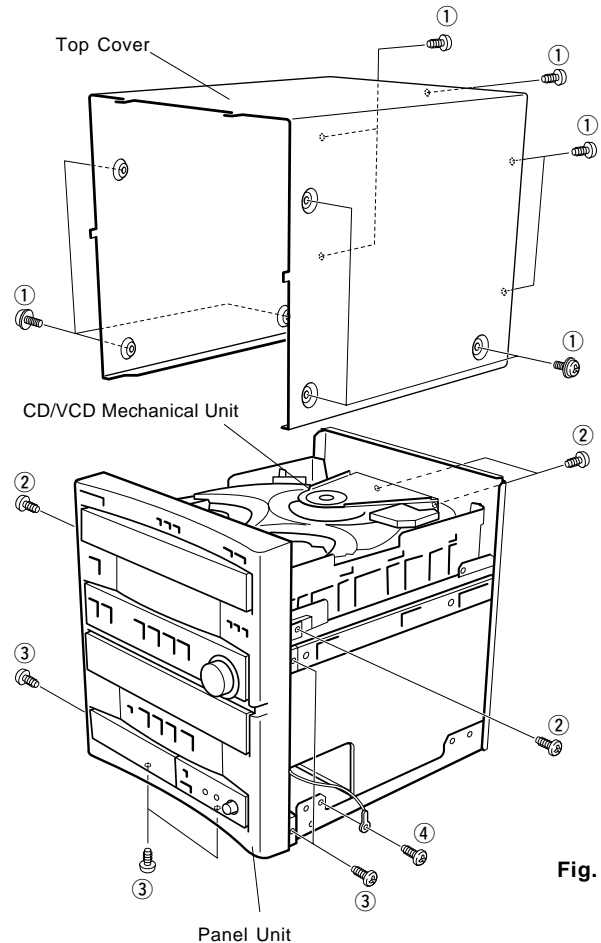
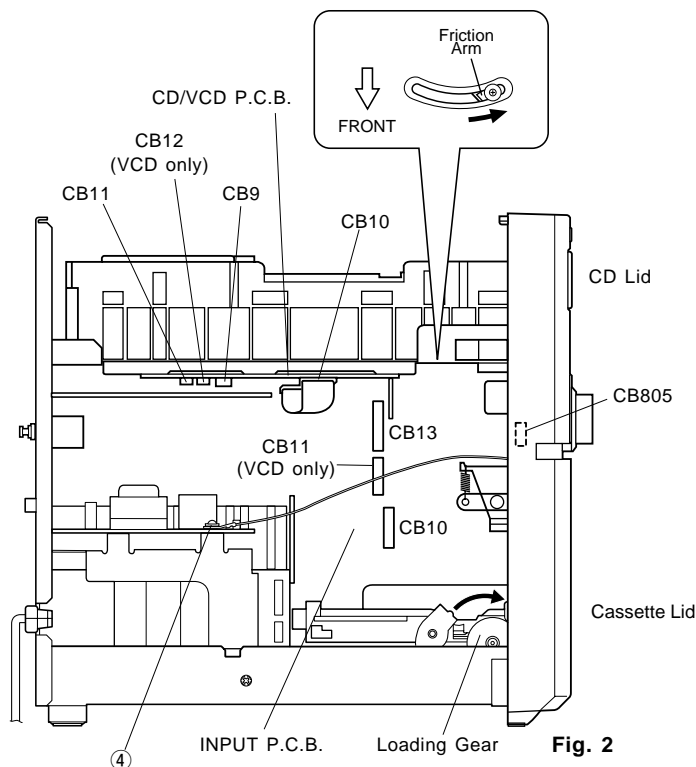

Fig. 1
Fig. 2
Remove 11 screws (①) in Fig. 1.
- Push the Friction Arm (the bottom side of the CD/VCD Mechanical Unit) with a finger as shown in Fig. 2.
- Pull the Tray forward approx. 5cm (2") and remove the CD Lid in Fig. 2.
- Disconnect the Flat Connecting Cables (CB10) on the CD/VCD P.C.B. and remove 3 connectors (CB11, CB12 and CB9) on the CD/VCD P.C.B. in Fig. 2.
- Remove 4 screws (②) and then remove the CD Mechanical Unit in Fig. 1.
- Rotate the Loading Gear, then open the Tray and remove the Cassette Lid in Fig. 2.
- Disconnect the flat connecting cables (CB10, CB13 and CB11) on the INPUT P.C.B. and remove a connector (CB805) in Fig. 2.
- Remove 5 screws (③) and 2 screws (④), and then remove the Panel Unit in Fig. 1 and Fig. 2.
- j. Connect the flat connecting cables (CB10, CB13 and CB11) and remove a connector (CB805) in Fig. 2.